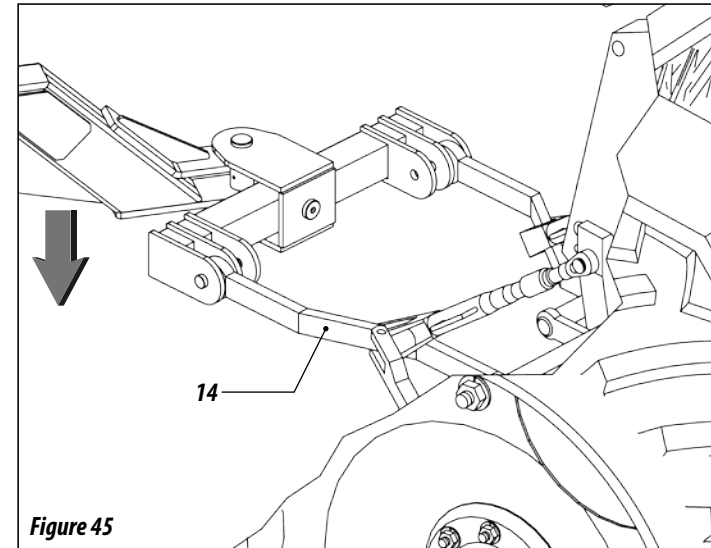

Figure 45
10 - Lower the hydraulic arms of the tractor (14), figure 45.